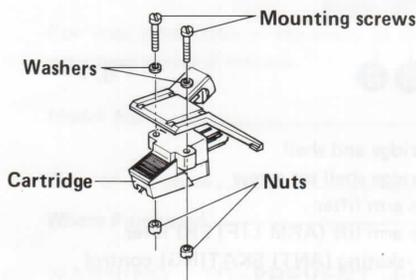

Fig. 5
b. Attach a cartridge to the cartridge shell lightly, using the screws and nuts (Fig. 5).